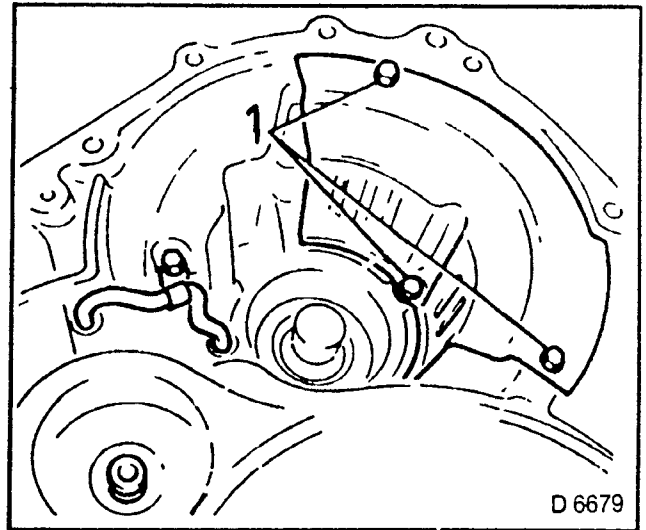

Fig 274
- 4. Fifteen bolts of auxiliary housing from main housing (1).
- 6. Fluid filter (3), fluid retaining plate from auxiliary housing three bolts, Fig. 274, Item (1).